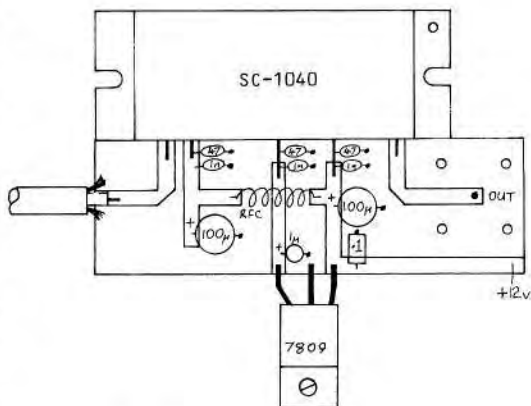

Fig.3 COMPONENT LAYOUT
The module itself is designated SC-1040 and has the ICOM name and logo printed on it. Anyone who has seen the 70cm Motorola MHW-710 'blue brick' will know what it looks like - except that this one is black! The circuitry is encapsulated and mounted onto a slab of metal. This serves not only to dissipate heat but also provides a means of bolting it on to an additional heat sink. Fig.3 illustrates the general appearance from the top.
4. Now position the regulator (fig.3) and fit it to the heatsink using a 4BA screw and nut. Note that if you are using a lower voltage device and wiring a diode in the common lead, the regulator must be insulated from the heatsink by a mica washer. A 6BA screw will then be required together with suitable insulating bushes. Alternatively a 4BA nylon screw and nut can be used.
8. A coaxial cable for the drive should be soldered to the input, splitting the braid in two and soldering to either side of the input line (see fig.3). Now check over your work and make sure the supplies are connected correctly.